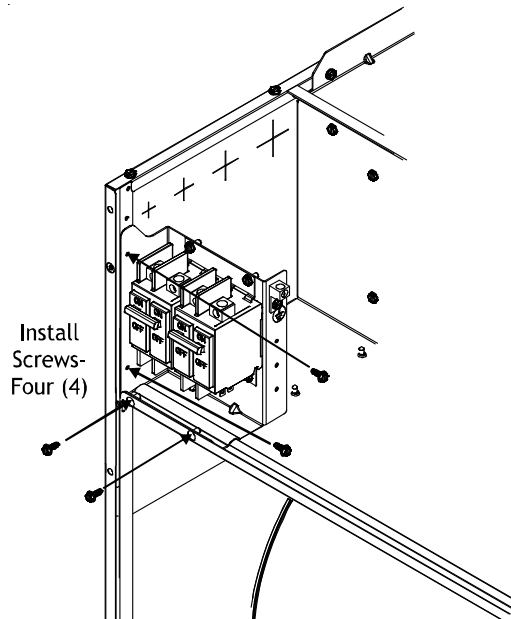

Figure 3
6. For all electric heat kits with circuit breakers, mount the circuit breaker mounting bracket as shown in Figure 3, using the supplied screws. Insert the four (4) screws as shown in Figure 3 (two through the control panel flange and two into the cabinet corner post).